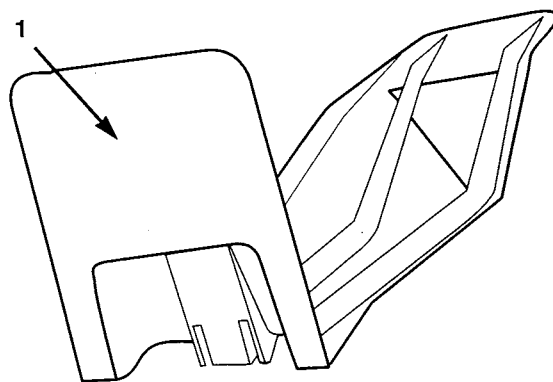

Figure 2
- A plug which fits into the mower's discharge tunnel (Fig. 2).